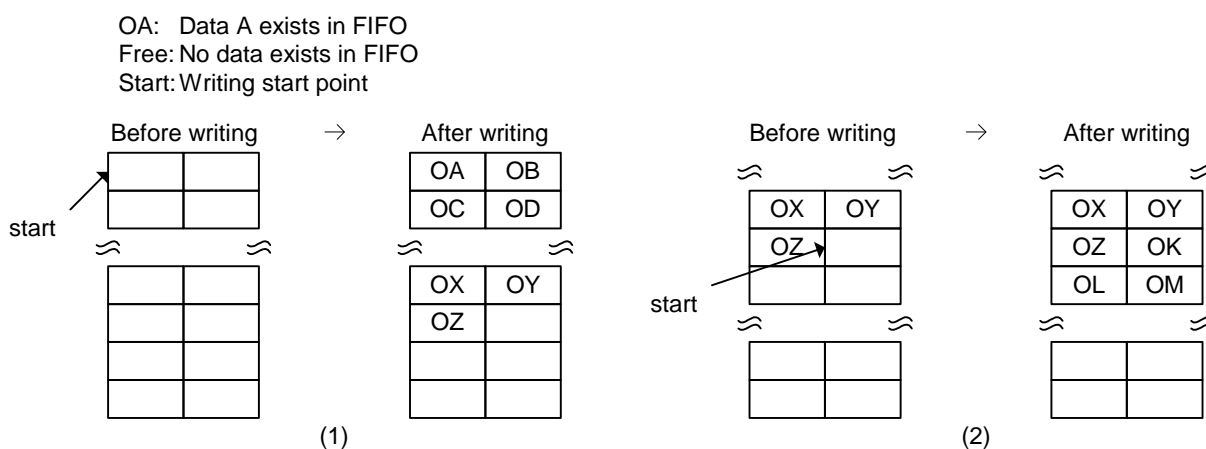

Fig. 1.77 FIFO writing processing (normal operation)
When setting the AREAnFIFO_Clr.ClrAREAx{x=0-5} bit and word writing from a state without byte boundaries and with odd data quantities, write the last byte (data Z) of the continuous data only to the High side. This situation is shown in Fig. 1.77 (1). Data is output from the USB in the sequence A, B, C, D .. X, Y, Z.
When writing from a state in which byte boundaries exist in the FIFO, first write the data to the Low side (write data K), then clear the byte boundaries before word writing (data L and M). This situation is shown in Fig. 1.77 (2).